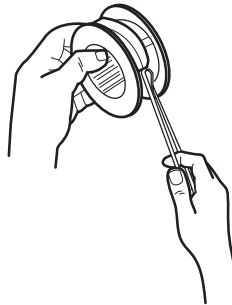

Fig. 26c
9. Cut a new 6 m long trimming line with a diameter of 2 mm. Form a loop at the middle of the line and insert this loop into the hook on the spool. (See Fig. 26c)